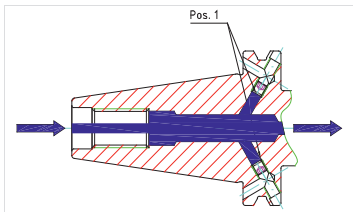

Fig. 10: Coolant Supply **Form AD/JD**
4. Screw the threaded pins with medium-strength thread locking compound (adhesive) into the cooled tool holder at "Pos. 1" (see *Fig. 10: Coolant Supply Form AD/JD*).